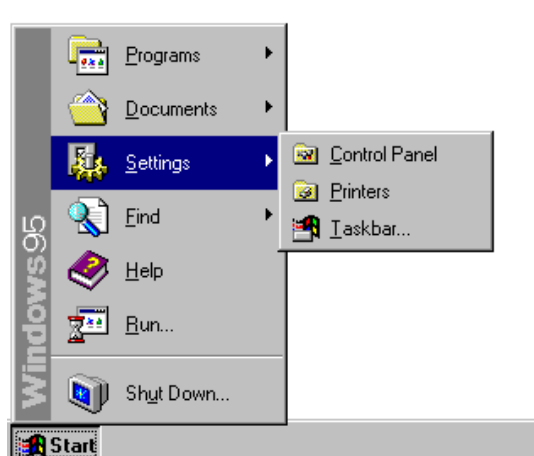
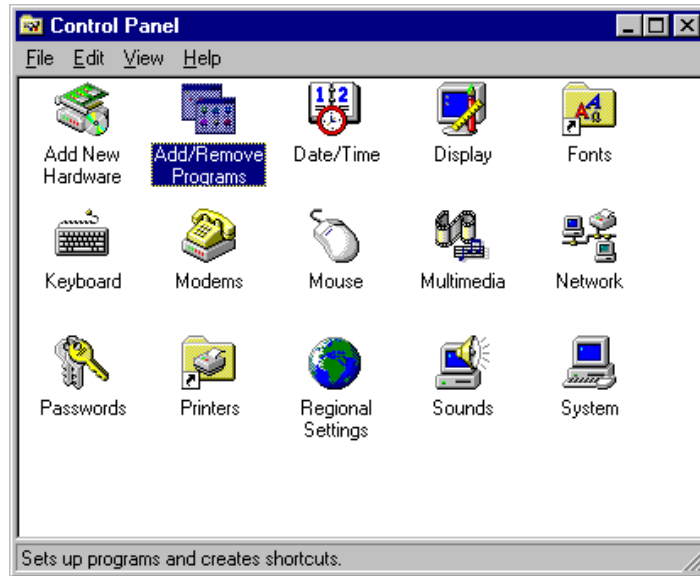

Figure 10.1 Windows 95
Figure 10.2 [Control Panel]
- (1) Click [Settings] - [Control Panel] on the [Start] menu as shown in Fig. 10.1. The [Control Panel] window is shown in Fig. 10.2.